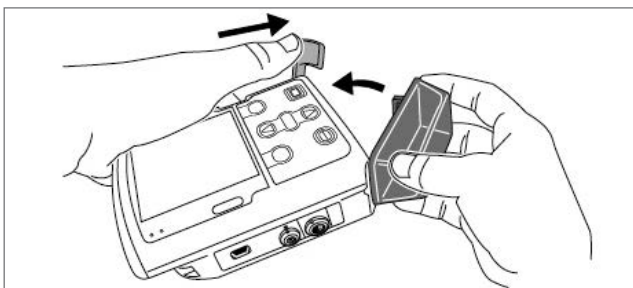

Figure 15: Removing the cassette
5. Remove and discard the cassette as directed by your clinician. See Figure 15.